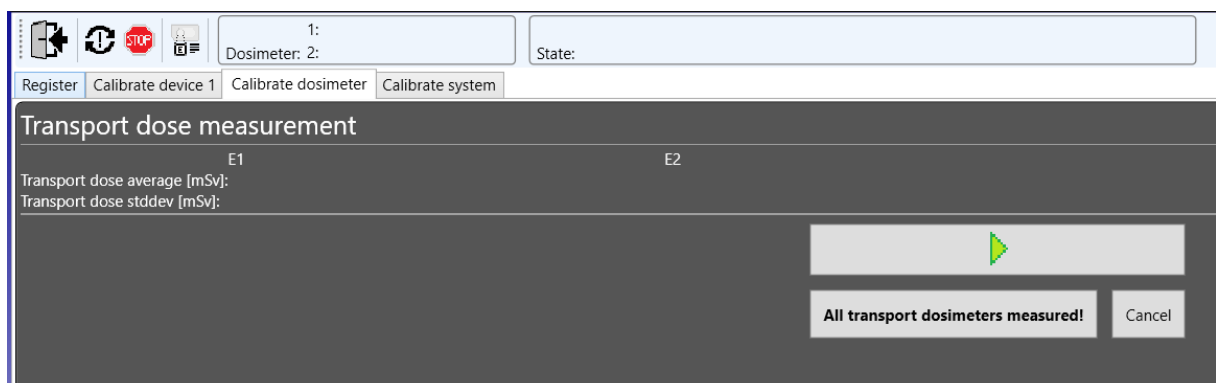

Figure 34 Transport dose measurement screen
- 5) If dosimeters are shipped irradiated together with transport dosimeters, "With transport dosimeters" is chosen. Click "Start" button to start the reading of the transport dosimeters and confirm when all transport dosimeters are measured (Figure 34).